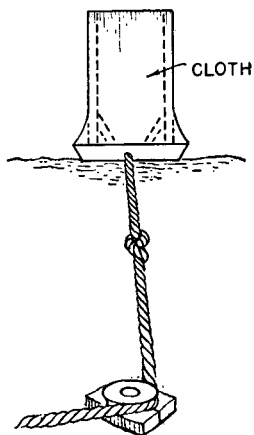

Figure 125. Ground-towed target.
(1) A sled target, with a low center of gravity, of the type shown in figure 125 can be constructed of scrap material and can be towed over rough ground.